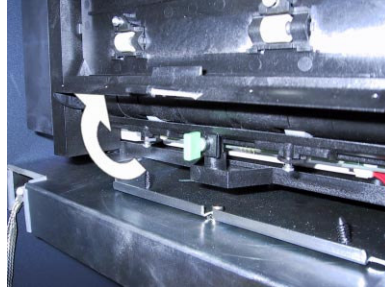

Fig. 7-7. Unlock and lift lower access door to check for stuck notes.
4. Release the **lower access door** (refer to **Figure 7-7**). Carefully lift the door to expose the feed path. Remove any notes.